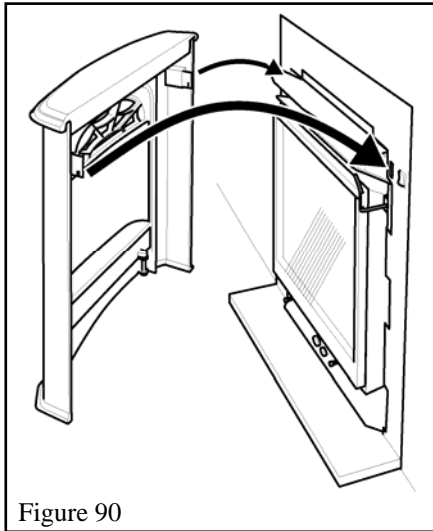

Figure 90
2. Hang the front unit by the hooks at the top corners (See figure 90).